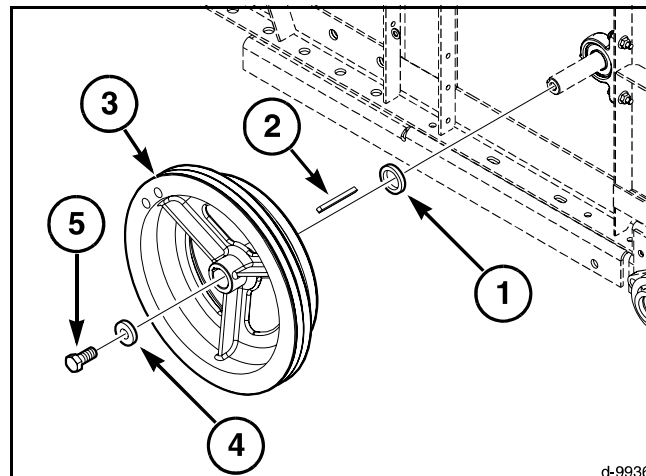

FIG. 594
FIG. 594: Combines with Serial Numbers HS87104 and Later / HS36145 and Later - Install the pitman shaft spacer (1) and the key (2) on the pitman shaft. Install the pitman driven sheave (3). Fasten the pitman driven sheave to the pitman shaft with the capscrew (5) and washer (4) removed during disassembly.